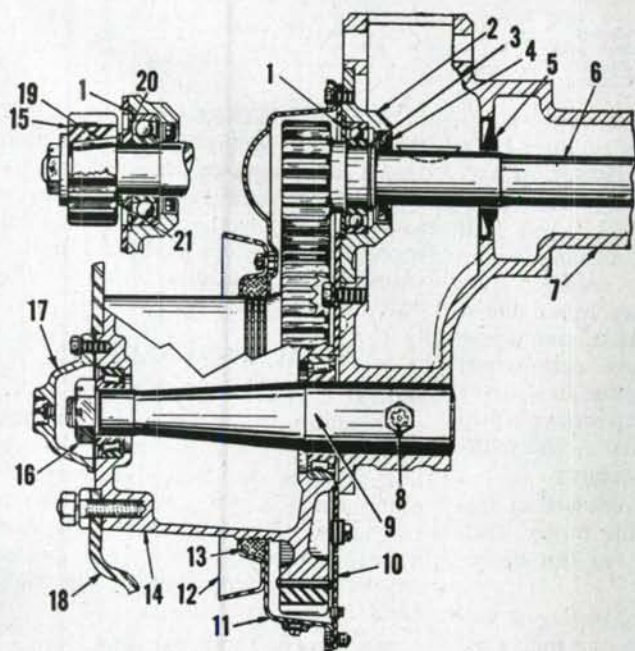

Fig. AC123—Models RC, WC, and WF equipped with a final drive assembly of the malleable iron type. Refer to Fig. AC124 for steel type final drive construction.
275. ADJUST WHEEL AXLE BEARINGS. Support tractor and remove hub cap. Turn adjusting nut (16—Fig. AC123) in until all bearing play is eliminated, but without binding the bearings.
Fig. AC122—Models RC, WC, and WF differential and final drive housing construction. Top view—One-piece malleable iron differential and final drive housing. Bottom view—One-piece stamped steel differential housing to which the final drive housings are bolted on the outer ends. Tractors equipped with steel type housings have a letter "S" following the tractor serial number. Refer to Figs. AC123 & AC124.
277. RENEW BULL PINION SHAFT, BEARINGS, OR BRAKE DRUM. To remove bull pinion shaft, support tractor under frame and remove bull gear as outlined in paragraph 276. (On shafts having a removable pinion (15—Fig. AC123), same can be pulled from the shaft after removing the retaining nut.) Remove gear cover back plate (10) and brake housing cover (1—Fig. AC138). Loosen brake band adjusting nut (2) and extract shaft by prying outward with a bar placed between brake drum and brake compartment wall. The brake drum can be pressed or driven off the shaft after removing set screw (13). Remove brake drum key (5) and bearing cage (2—Fig. AC123). Bull pinion shaft bearing can be pressed or driven off the shaft after removing snap ring (3).